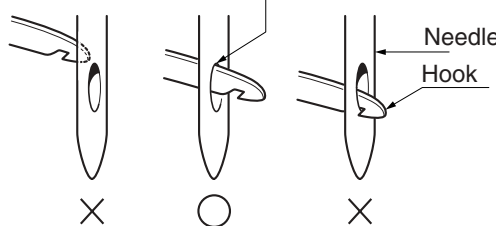

Fig.1
- If the needle thread block is slanted to far to the left, the hook will not operate, and threading cannot be done (Fig. 1).